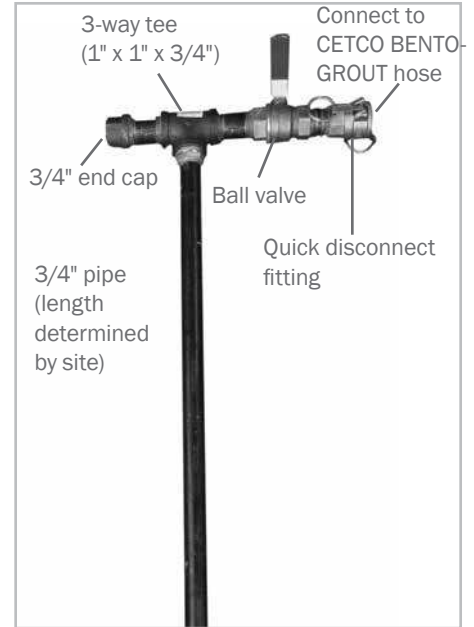

Figure 1: Single Connection Injection Head Assembly
**Exterior Injection Head:** The applicator will need to fabricate an "Injection Head" to connect the pump hose to the injection pipe. An example of this "Injection Head" assembly is pictured below. Figure 1 illustrates an Injection Head assembly with a quick disconnect fitting, shut off valve, three way tee and end cap. On the bottom of the three way tee is the injection pipe (length to be determined by project depth requirements; typically 2.4 m - 3.0 m (8-10')). The Injection Head will also serve as a leverage device to hold onto when the applicator is inserting the injection pipe into the soil substrate.
With a Single Connection Injection Head, use the grout as a drilling medium to assist with sinking the pipe (see Figure 1). For deep depths, it may be necessary to use scaffolding to operate from when first inserting a long pipe.